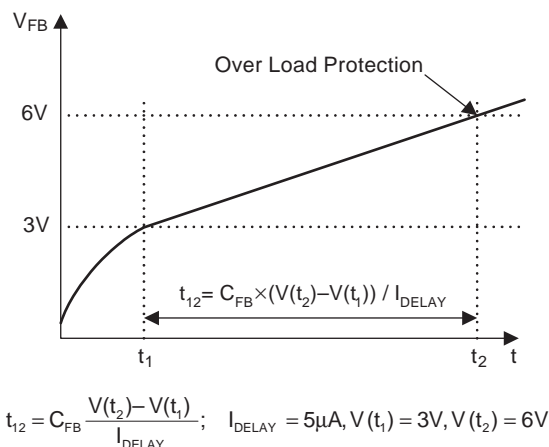

Figure 6. Over Load Protection (OLP)
4.1 Over Load Protection (OLP): Overload is defined as the load current exceeding a pre-set level due to an unexpected event. In this situation, the protection circuit should be activated in order to protect the SMPS. However, even when the SMPS is operating normally, the Over Load Protection (OLP) circuit can be activated during the load transition. In order to avoid this undesired operation, the OLP circuit is designed to be activated after a specified time to determine whether it is a transient situation or an overload situation. In conjunction with the I_{pk} current limit pin (if used) the current mode feedback path would limit the current in the Sense FET when the maximum PWM duty cycle is attained. If the output consumes more than this maximum power, the output voltage (V_o) decreases below its nominal voltage. This reduces the current through the optocoupler LED, which also reduces the feedback transistor current, thus increasing the feedback voltage (V_{FB}). If V_{FB} exceeds 3V, the feedback input diode is blocked and the 5µA current source (I_{DELAY}) starts to slowly charge C_{fb} up to V_{cc} . In this condition, V_{FB} increases until it reaches 6V, when the switching operation is terminated as shown in Figure 6. The shutdown delay time is the time required to charge C_{fb} from 3V to 6V with 5µA current source.